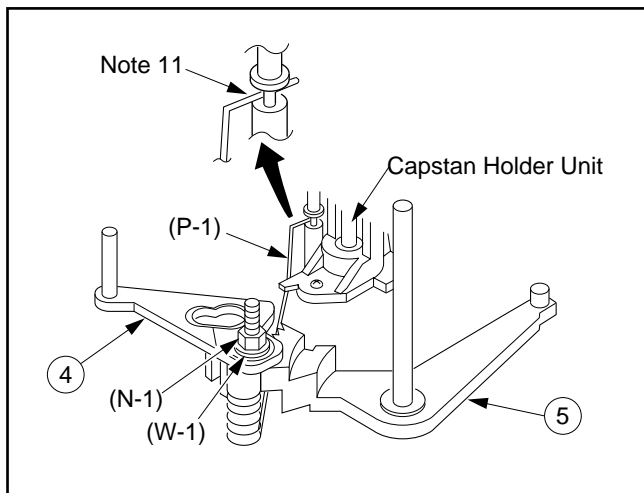

Fig. J5
- As an ESD countermeasure, make sure the spring is in contact with the base of the P4 post as shown in Fig. J5, Page 2-21.